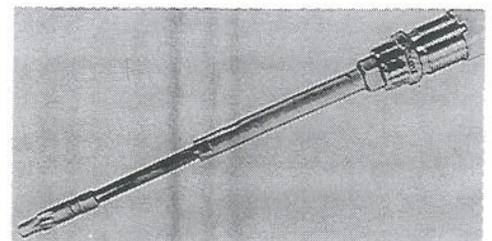

FIGURE 31
3. Attach reseating reamer to drill holder. **Figure 31.**